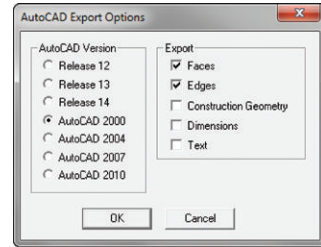

Figure 18.8 The AutoCAD Export Options dialog box
1. Within SketchUp, click on the File drop-down menu and select Export > 3D Model (Figure 18.8).